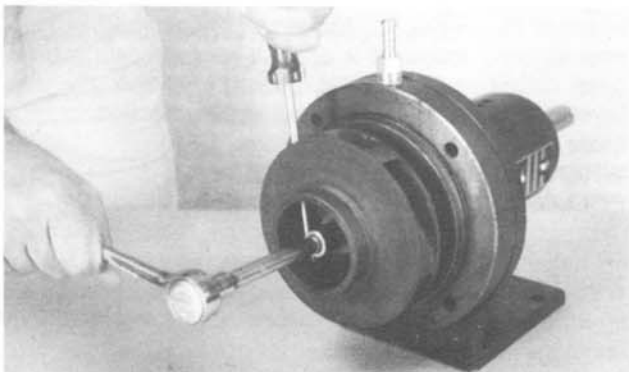

Figure 5
1. Remove (4) 3/8" cap screws holding case. Remove case from backplate.
2. Insert a screwdriver in one of the impeller waterway passages and back off the impeller retaining assembly with a 9/16" socket wrench as shown in Fig. 5.